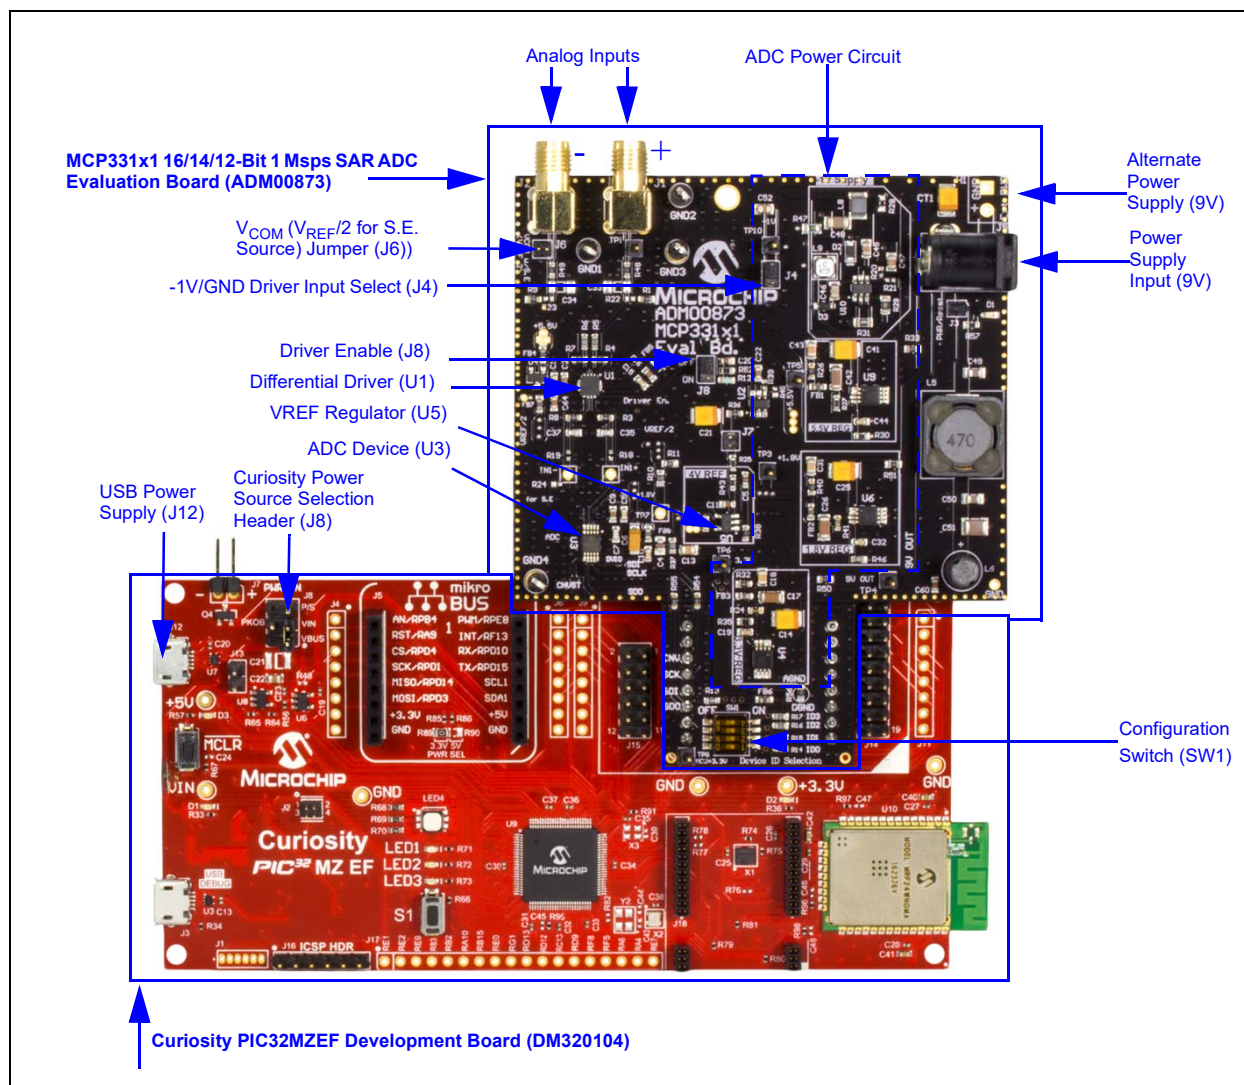

FIGURE 2-1: The MCP331x1 16/14/12-Bit 1 Msps SAR ADC Evaluation Board (ADM00873), connected to the Curiosity PIC32MZE Development Board (DM320104).
Each evaluation board features a 4-way SPST DIP switch (schematic designator: SW1) that allows the user to manually configure the board for a variety of available devices, as well as configure the input, resolution and speed for each device. Table 1-2 lists each available switch setting. Refer to Figure 2-1 from Chapter 2. "Installation and Operation" to view the location of SW1.
This MCP331x1 Evaluation Board comes with a 9V wall plug-in switching power supply (Trident: WSU090-2000-13). This power supply is able to provide a 9V, 2A maximum output. It can be connected to an AC wall outlet rated between 100V AC and 240V AC, at a frequency of 50 Hz to 60 Hz. The other end of the power supply is a 2.1 mm barrel plug that connects to the MCP331x1 Evaluation Board (see Figure 2-1). If the user chooses to connect a different external power supply, a minimum output of 500 mA is *required*, with a voltage output between 6V-12V. There is no on-board 9V regulator, so the 9V OUT pin (TP4) will read a voltage equal to the voltage input value selected by the user.
1. Connect the MCP331x1 Evaluation Board and the Curiosity PIC32MZEZ Development Board as shown in Figure 2-1.
2. Connect the Curiosity PIC32MZEZ Development Board to a computer using a type A male-to-micro-B USB cable. In order to power the Curiosity Board through USB, the USB cable must be plugged-in to the USB connection located at J12. In addition to this, the headers located at J8 need to have the jumper connecting the V_{BUS} pin to V_{IN} . Figure 2-1 shows the component locations.
4. Connect a differential or single-ended analog input signal to the MCP331x1 Evaluation Board SMA terminals. For single-ended operation, populate jumper J6 (see Figure 2-1 for jumper location). By populating this jumper, the negative signal input will be tied to $V_{REF/2}$ (V_{COM}). Another option is to terminate the negative signal input using a 50 Ω termination.